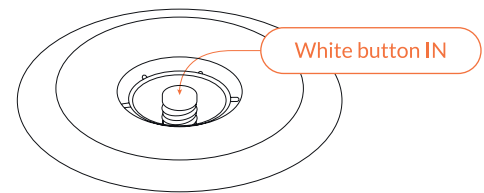

Fig 30 – One way inflation valve open to release air
3. Deflate both Air Toggles by pressing the white button in the centre of the valve until it stays down (Fig 30). The air will then be released.